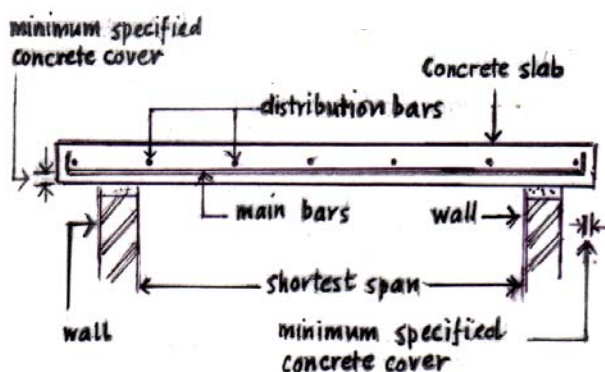

Fig 7-Typical section of simply supported rectangular RCC SLAB
- Made sure that when laying reinforcement steel in slabs – the main steel bars are laid under the distribution steel bars (See. Fig. 7)